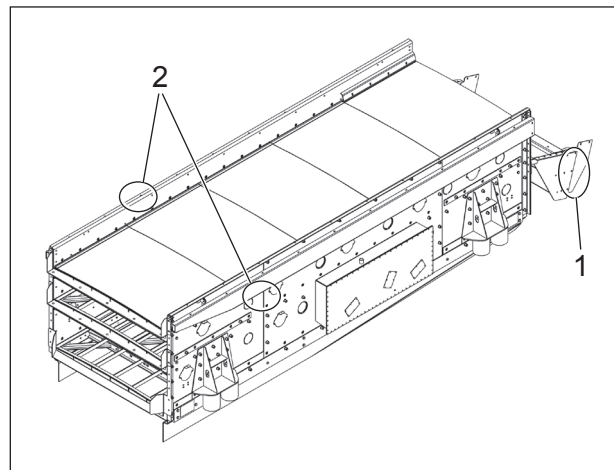

Figure 6.17 - Drop Box and Deflector Plate
1. Use setup arms to fit drop box (item 1) into the working position, Ref: Figure 6.17.
2. Bolt up drop box (item 1) in the working position, Ref: Figure 6.17.
4. Slide the deflector plates (item 2) into the working position, Ref: Figure 6.17.